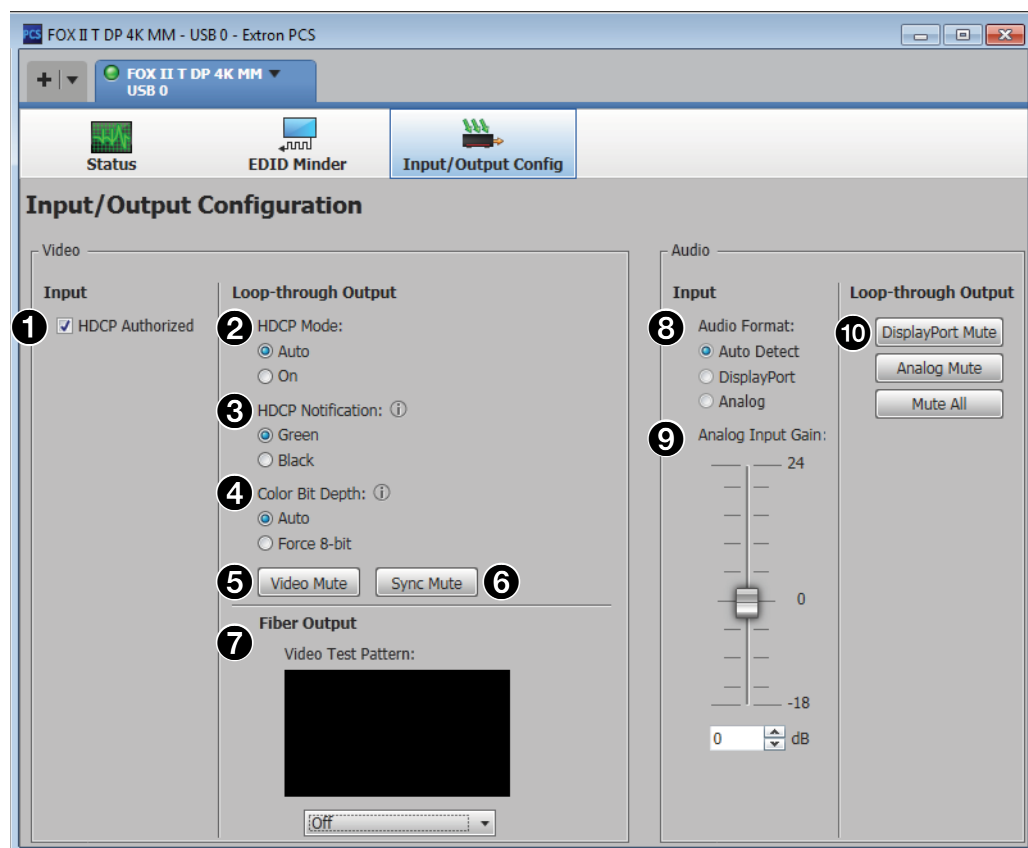
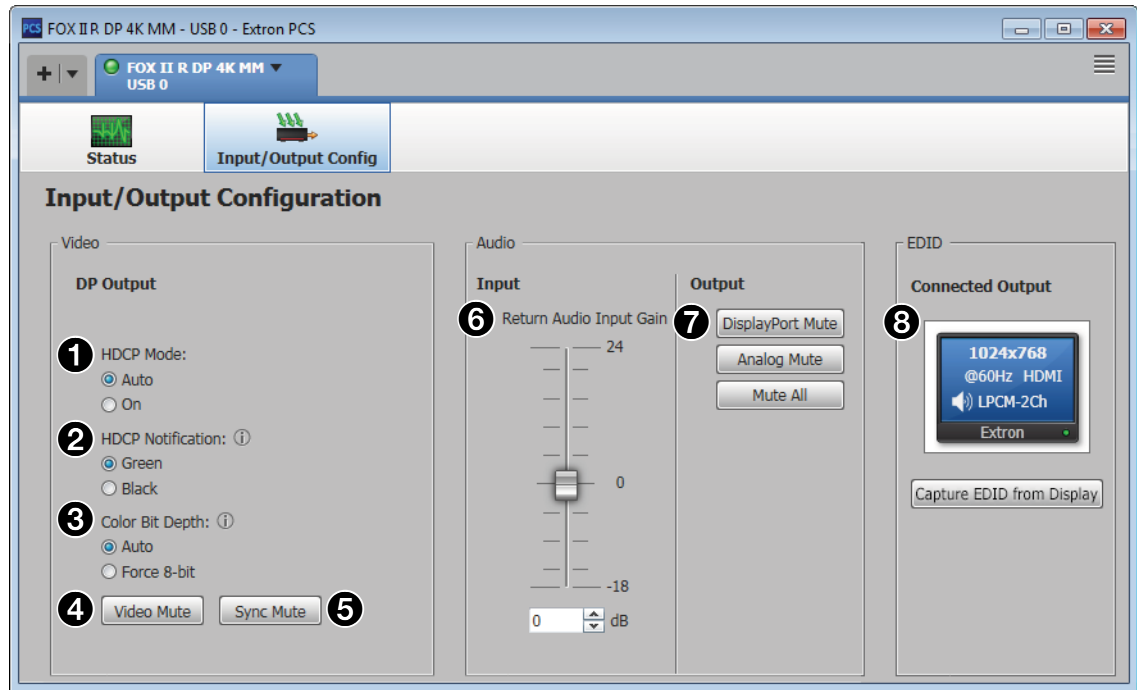

Figure 17. Input/Output Configuration Screen for the Transmitter
Figure 18. Input/Output Configuration Screen for the Receiver
The Input/Output Configuration window allows you to set the input and output option features of the transmitter (see figure 17) and receiver (see figure 18, on page 33). Select this window from either the Status or EDID Minder window by clicking **Input/Output Config** on the menu bar.
- ③ **HDCP Notification radio buttons** (see figure 17 on the previous page) — Select either the **Green** or **Black** radio button to select how the transmitter displays HDCP notification on a monitor connected to its Loop-through output port.
- ⑥ **Return Audio Input Gain slide control** (see figure 18 on the previous page) — Click and slide the **Return Audio Input Gain** slide control to vary to select the input audio gain or attenuation value of the audio returned to the transmitter, from -18 dB to +24 dB in 1 dB increments.